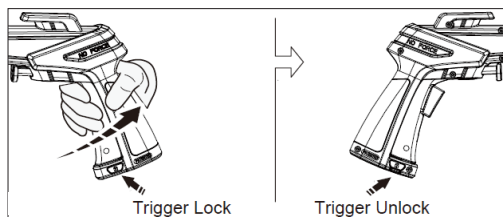

Fig.11
- To lock the trigger of the spray gun, make sure power is off (0).
- Aim the spray gun away from you and push the lock button up (Fig. 11).